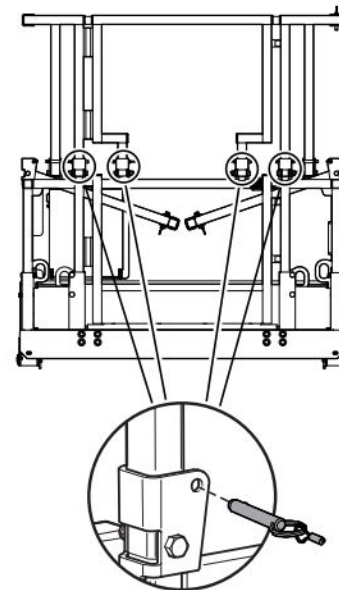

**Figure 25** Rear gate folded
28. Hold the rear mid-rail with one hand, and then fold the rear gate with the other hand. Refer to Figure 25 for the hand positions.
32. Hold the mid-rail of the extension guardrail with one hand, and then fold the extension guardrail with the other hand. Refer to Figure 25 for the hand positions.